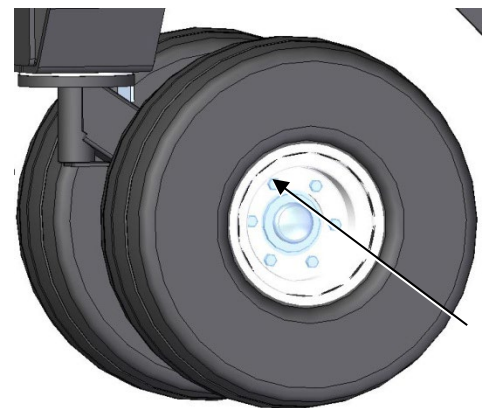

Fig. 6.3
Check wheel lug nut tightness (Figure 6.3) after the first two (2) hours of operation, again after the first ten (10) hours, then periodically.